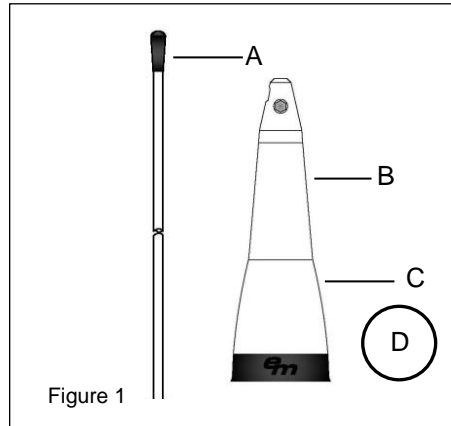

Figure 1
#### 1. Parts (Figure 1):
- Verify all parts are included with the Antenna as shown in Figure 1.